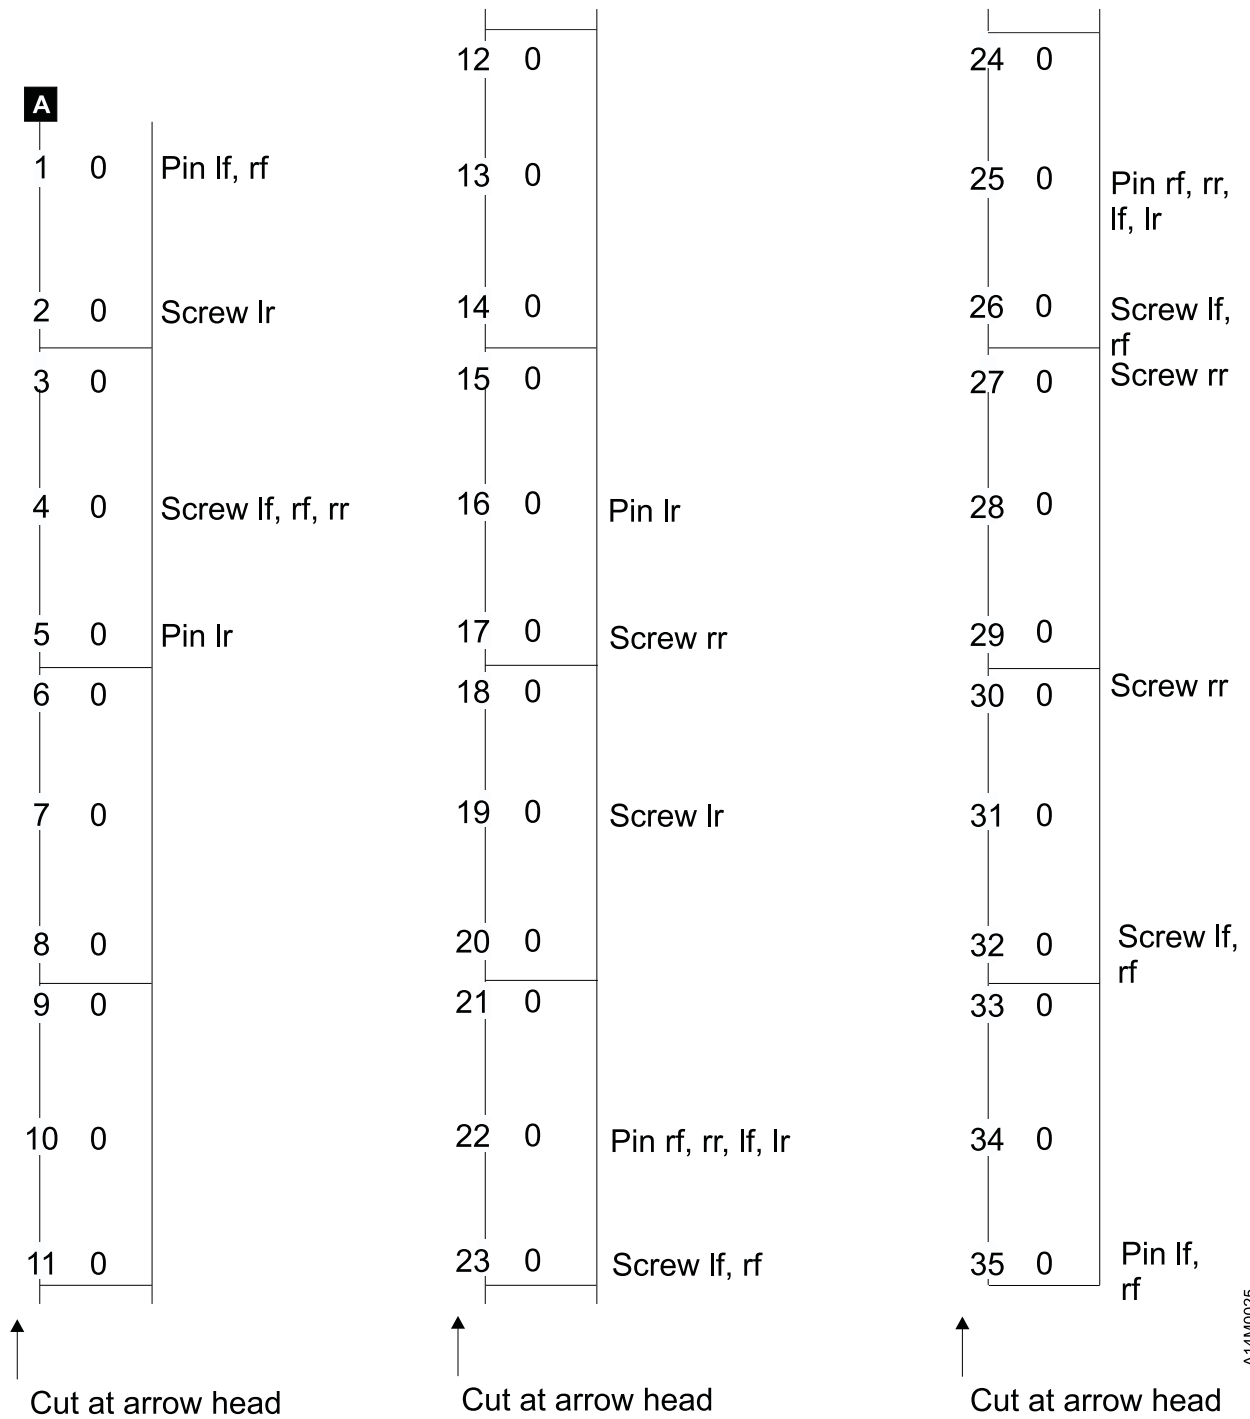
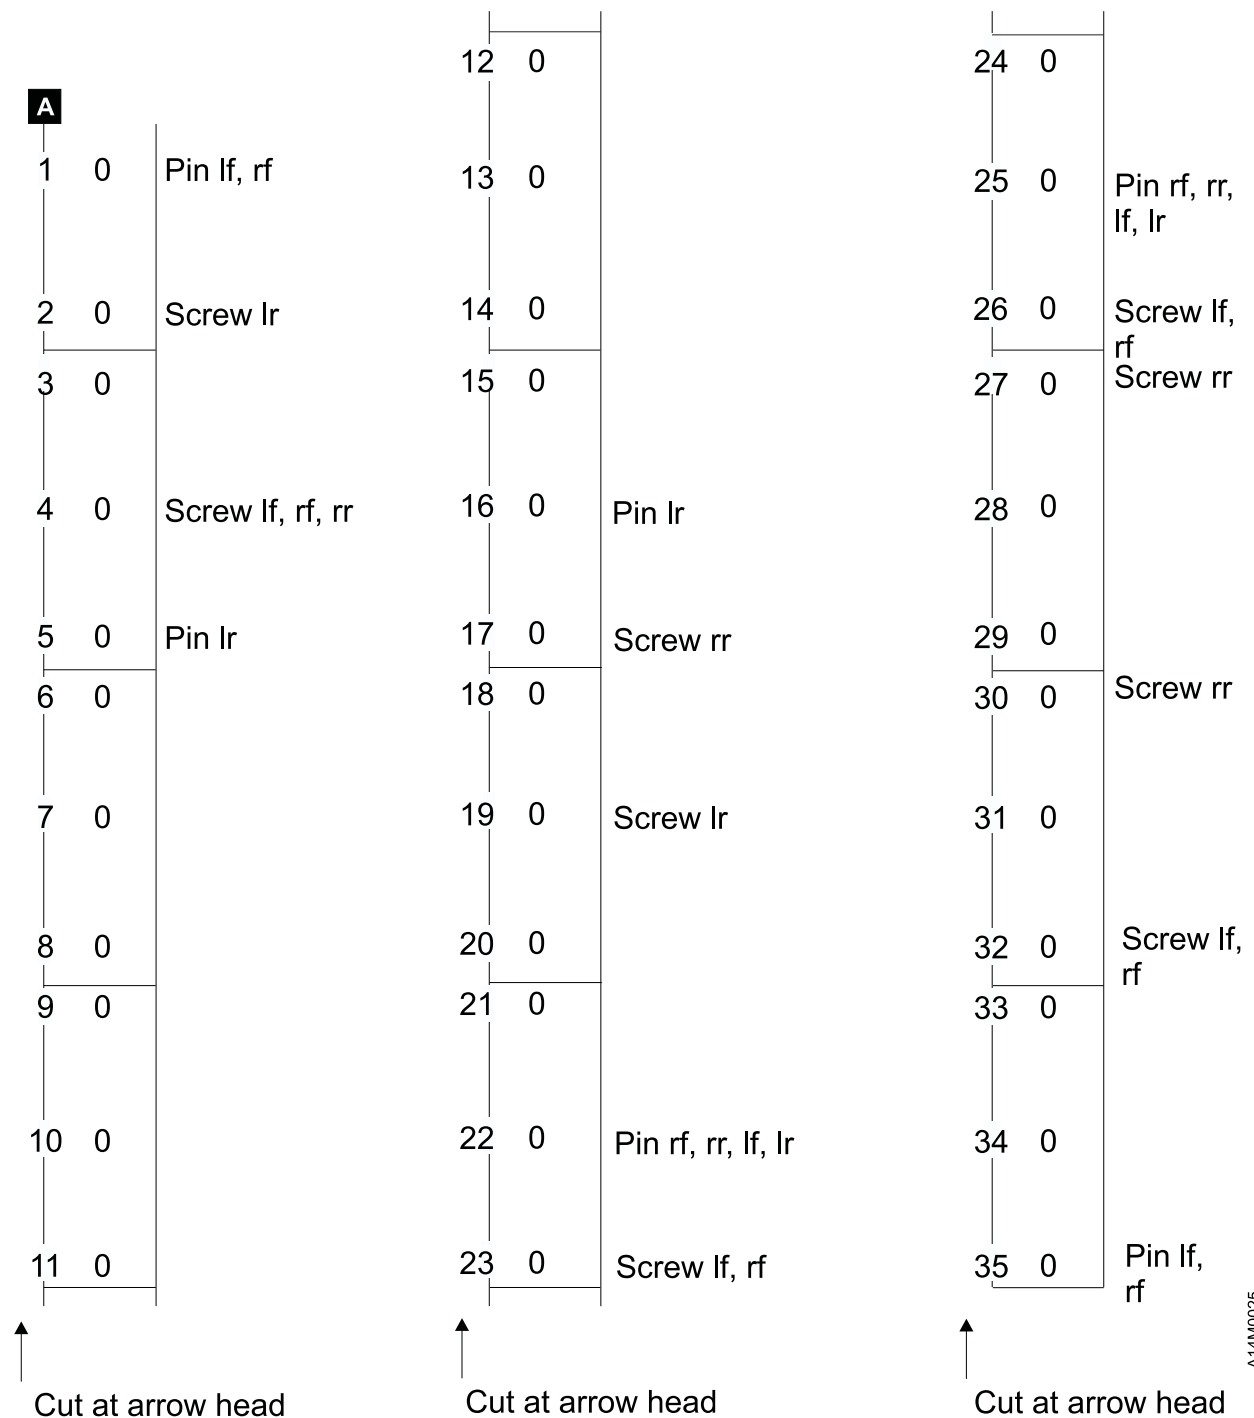

Figure 8-3. EIA Unit Holes
Figure 8-4. EIA Unit Holes. Do not cut out this figure. Copy this template, and cut out the copy.
**Holes for EIA Units, Model B11/E11/H11:** The 3590 Model B11/E11/H11 drive requires 12 EIA units. Figure 8-3 on page 8-9 shows the hole number and the location of the pins and screws for the hardware. Start counting at **A** hole number 1, which is the second hole in the first allocated EIA unit. Figure 8-2 on page 8-7 shows an example of EIA unit number 20 as being the first EIA unit allocated to the 3590.
Use Figure 8-3 and Table 8-2 with the figures under "Hardware for Drives 0 and 1" on page 8-12. The figures show the hole numbers and the part numbers for the hardware.
Figure 8-3 and Figure 8-4 are identical. You can copy (if a photocopier is available) one of these figures, or use the one with the blank page on the back of it to make a template. Cut the figure from top to bottom into three sections. Tape the three pieces together (locating them by hole number) to make a long, vertical strip that will help you locate the hardware mounting locations. The EIA holes may not be in exactly the correct location, but you can determine the exact hole location by the spacing between each EIA unit.
**Note:** Cut only the figure with the blank page on the back Figure 8-3, and use the other, Figure 8-4, as a master to create future additional copies that you could cut out. Do not cut the master template in Figure 8-4.
**Note:** You can cut out a template to help you locate the holes. See Figure 8-3 on page 8-9.